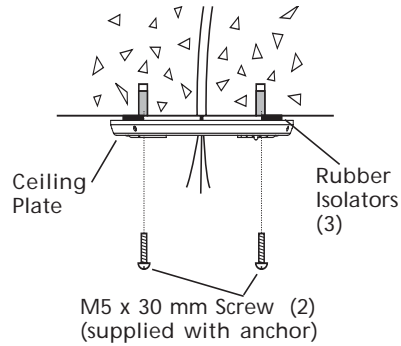

Figure 2f - Attaching Ceiling Plate to Ceiling
5. Drive the M5 x 30 mm screws into the anchors so that the Ceiling Plate is tight against the ceiling. See Figure 2f.